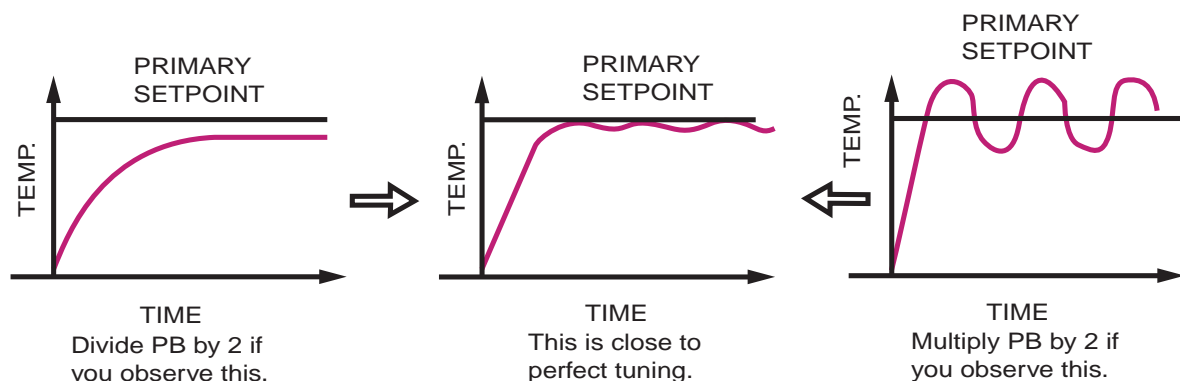

Figure 1. Temperature Oscillations
- If there are no regular oscillations in the temperature, divide the PB by 2 (see Figure 1). Allow the process to stabilize and check for temperature oscillations. If there are still no oscillations, divide the PB by 2 again. Repeat until cycles or oscillations are obtained. Proceed to Step 5.